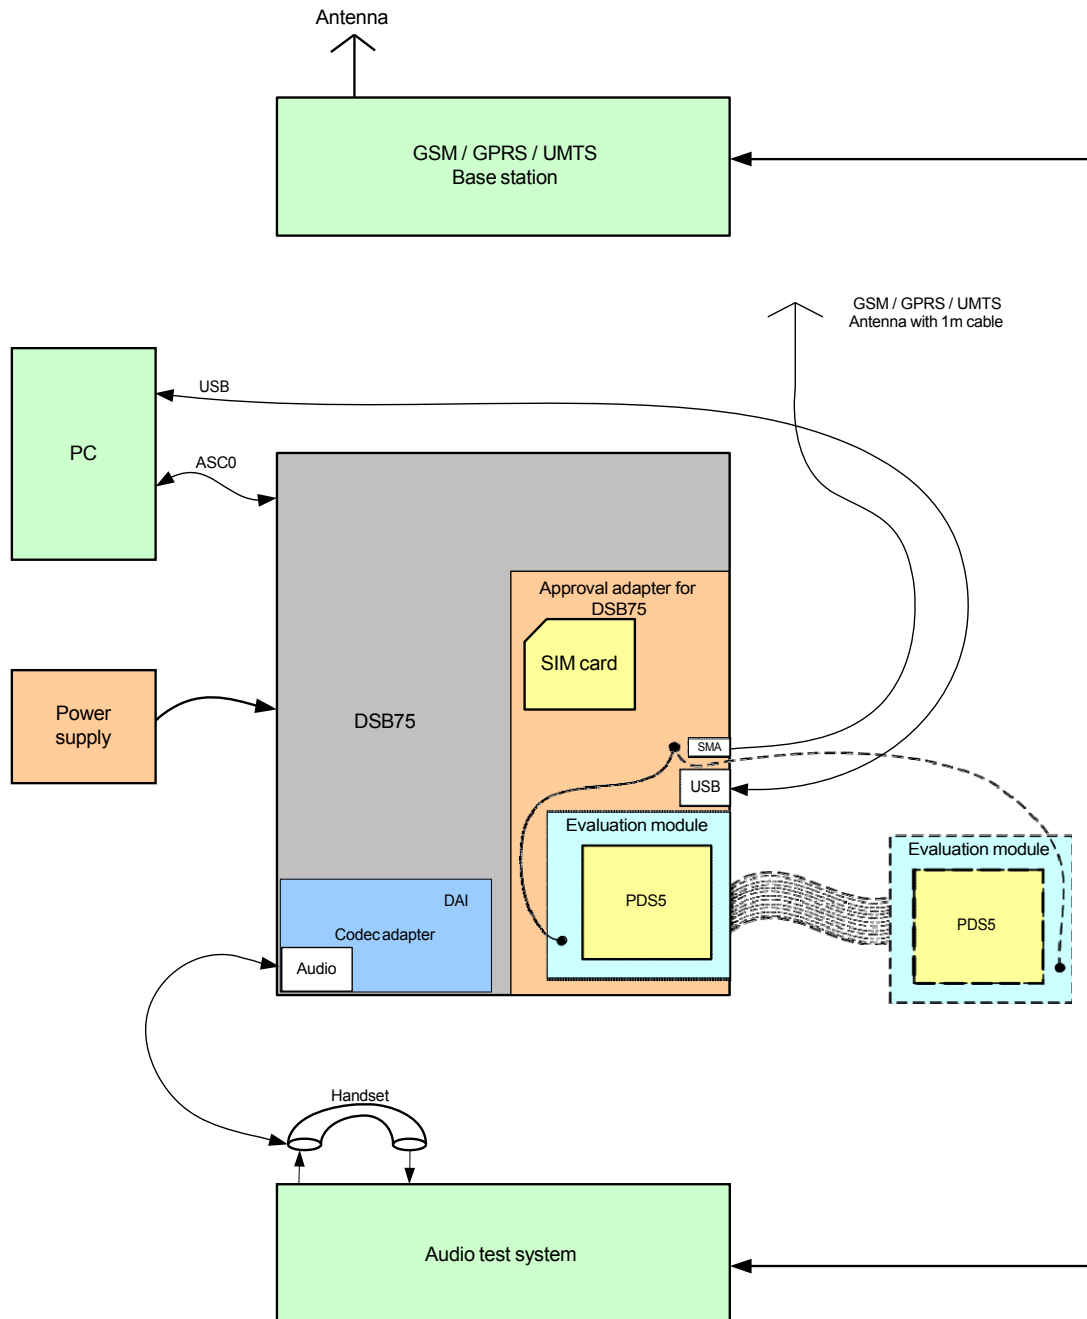

Figure 7: Reference equipment for Type Approval
1. For RF performance tests a mini-SMT/U.FL to SMA adapter with attached 6dB coaxial attenuator is chosen to connect the evaluation module directly to the GSM/UMTS test equipment instead of employing the SMA antenna connectors on the PDS5-E/PDS5-US-DSB75 adapter as shown in Figure 7. The following products are recommended: